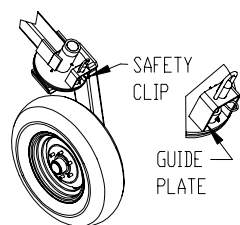

Figure 7
1. To change the shredder from field use to transport, first back the shredder up until the right rear swivel wheel is turned approximately 90 degrees to the right of field position (figure 7 shown in field position). Remove the